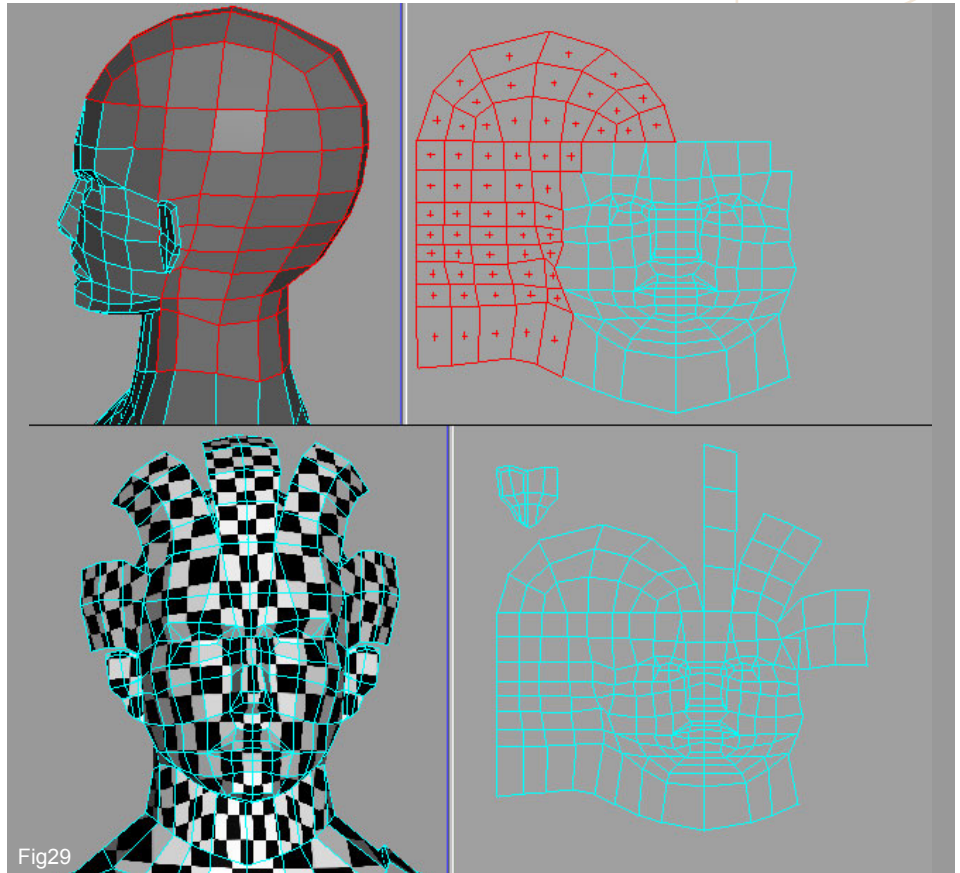

Fig29
29. In the BP UV Edit select the poly's like shown on the top left of Fig29 and flip them horizontally then overlay them on the left part. Move now the three front hair pieces in line with the top of the forehead, scaling them accordingly as seen on the bottom of figure.